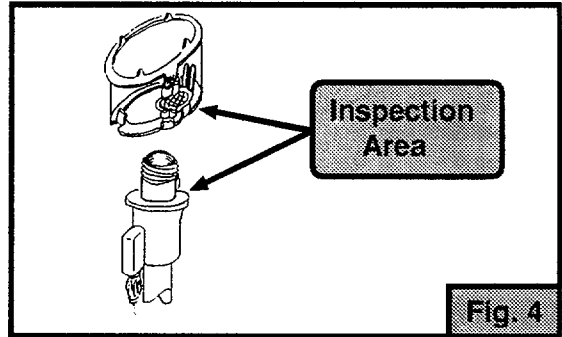

Fig. 4
4. Remove the antenna spacer grommet at the top of the antenna assembly and inspect for corrosion (Fig. 4). Clean with 1500 grit sandpaper.